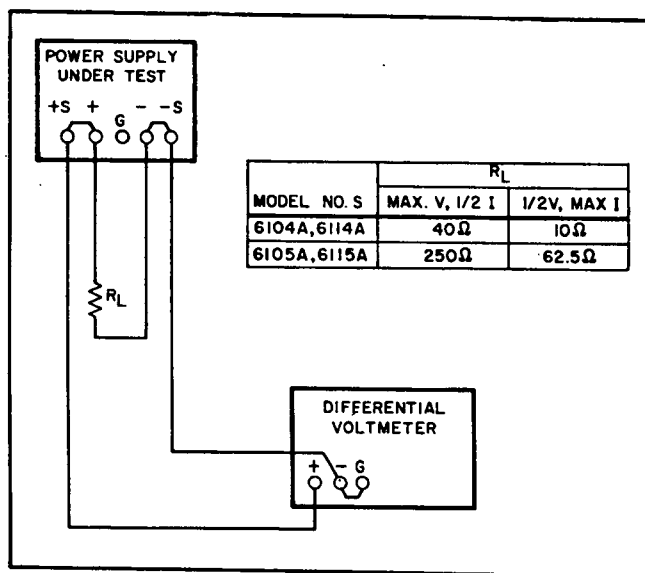

Figure 5-2. Constant Voltage Load Regulation Test Setup
- Connect load resistor (R_L) indicated in Figure 5-2 (maximum voltage, 1/2 maximum current) across output terminals of supply.
a. Connect load resistor (R_L) indicated in Figure 5-2 (maximum voltage, 1/2 maximum current) across output terminals of supply.
- Connect test setup shown in Figure 5-2.
- a. Connect test set up shown in Figure 5-2; select R_L as applicable for the voltage/current range being checked.
- a. Connect load resistance (full voltage/half current) and differential voltmeter as illustrated in Figure 5-2.
- Connect load resistance (full voltage/half current) and differential voltmeter as illustrated in Figure 5-2.